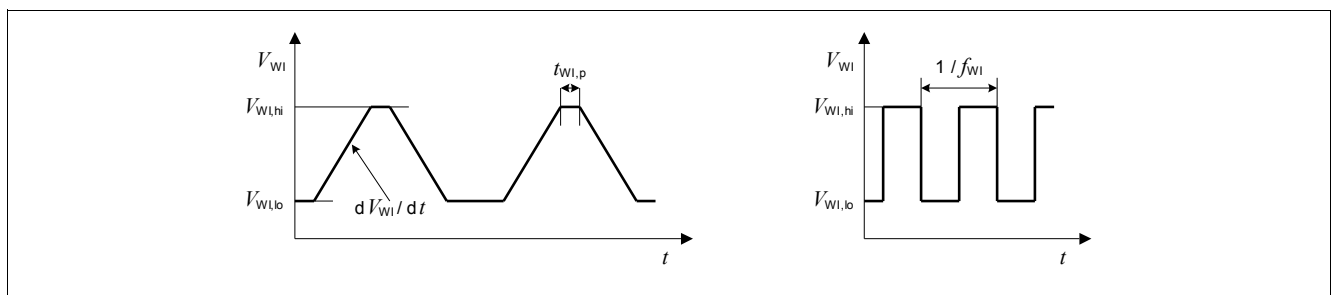

Figure 10 Test pulses watchdog input WI
The watchdog is triggered by a positive edge at the watchdog input “WI”. The signal is filtered by a band-pass filter and therefore its amplitude and slope have to comply with the specification P_8.2.10 to P_8.2.14. For details on the test pulse applied, see Figure 10.
- 2) For details on the test pulse applied, see **Figure 10**.